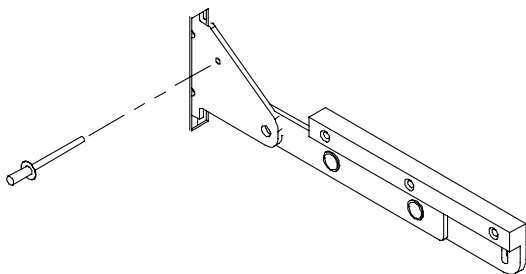

Figure 37: Use Rivet, Screw, or Nail to Hold Hinge Open
2. Open the oven door to its full open position and insert rivets, screws, or nails (Figure 37) to hold the hinges in the open position.